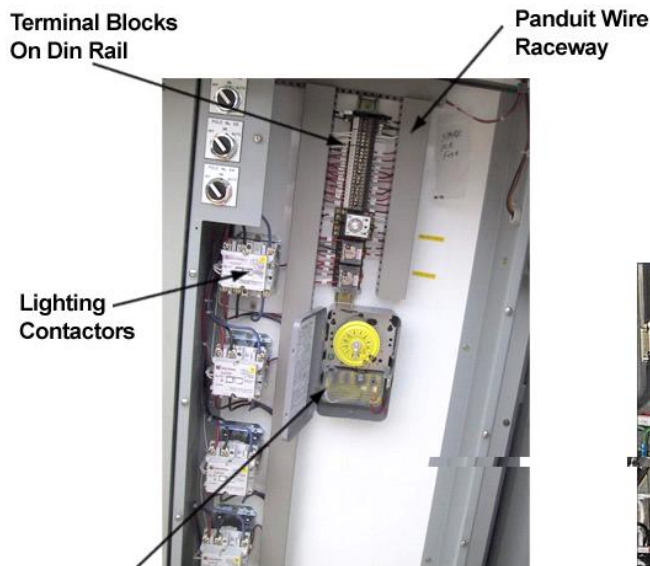

Figure 22
- D. Wiring and terminal blocks shall be labeled according to the conventions shown in Figures 22 and 23.
- A. Terminal blocks in the contactor cabinet shall be din rail mounted as shown in figure 22 above.